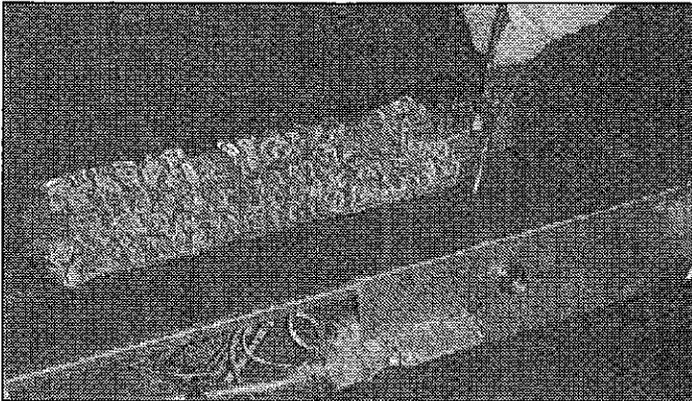

Figure 3.5 Loosen Valve Assembly
- Remove the four screws holding the valve assembly in place. See Figure 3.5.